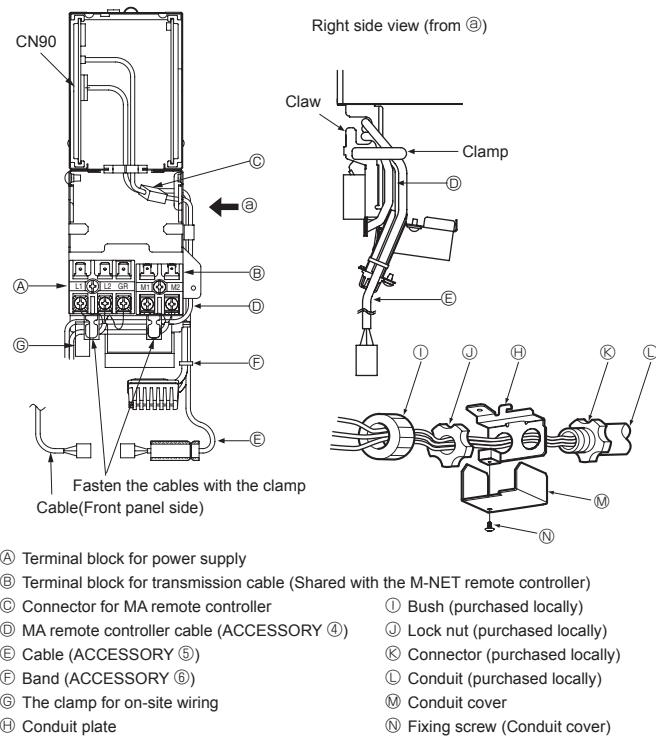

Fig. 5-1
5.1. Indoor unit (Fig. 5-1, 5-2)
- Connect the attached cable ⑤ to the CN90 on controller board in the electrical parts box.
- Fix the MA Remote controller cable ④ and the cable ⑤ with the clamp through the claw on the right side of the electrical parts box.
- Fix the MA remote controller cable ④ on the fixing clamp with the cable running along the down side of the terminal block.